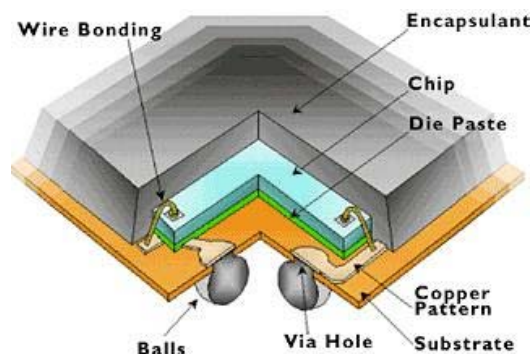

Fig 1. (LF)(TF)BGA Cross Section
A cross section of the typical (LF)(TF)BGA is shown in Fig 1.